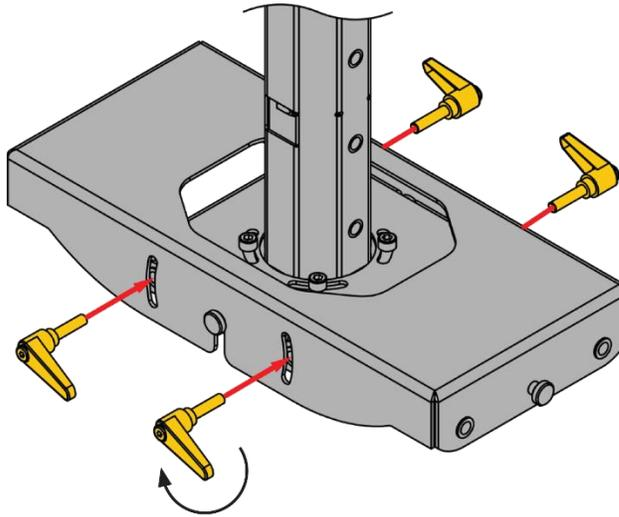

Figure 81:
Step 7: Tighten the middle plate ⑤ to the top plate ④ with the help of the clamping handles ⑨ (4 pcs.), as shown in **Figure 81**.